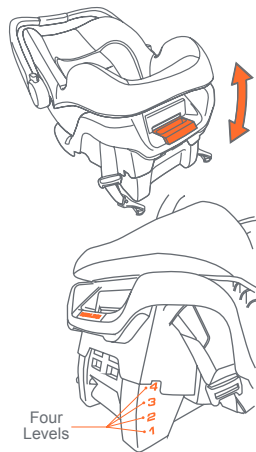
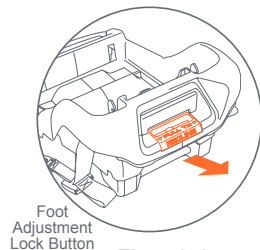

Fig. 58-1
Fig. 58-2
- To extend the foot of the base, Pull outward on the hand hold as shown in (Fig. 58-1) while holding onto the base. To retract the foot, pull outward on the lock handle as shown in (Fig. 58-2) and push upward on the foot. Be careful not to pinch your finger as the foot retracts. Check the level indicator to see if the seat is now level.